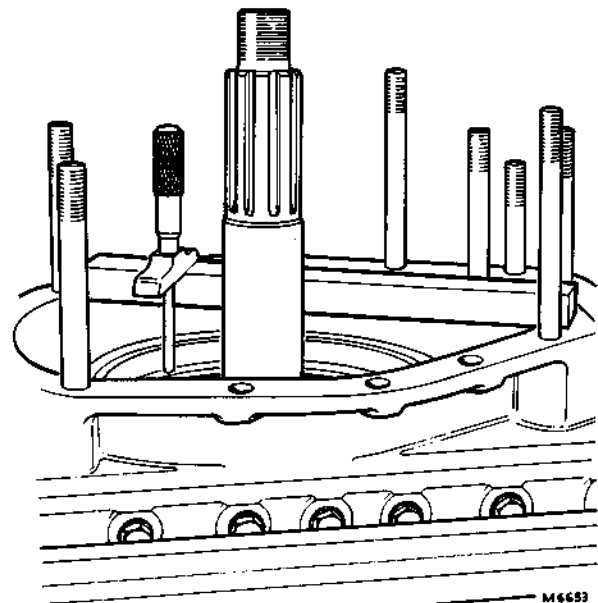

FIG. 1. MEASURING DEPTH OF BEARING
- b. Using a straight-edge and micrometer depth gauge, measure the distance between the gearbox flange face and the outer face of the brake drum bearing, see Fig. 1.